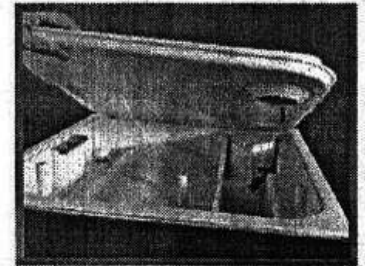

Fig9-2
- 3) Pull up the water tank cover board by one hand, just, as fig9-2 indication.